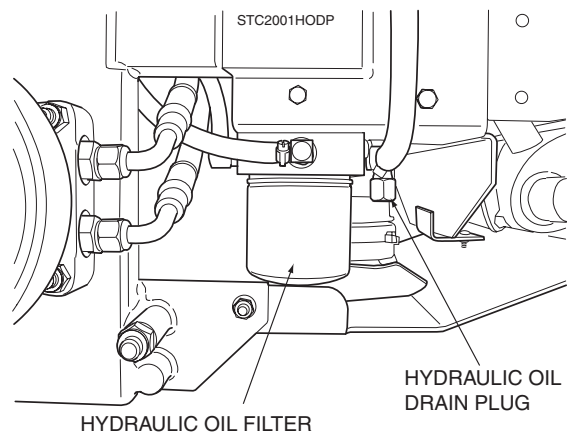

Figure 7-3. Hydraulic Oil Filter and Drain Plug
2. Place a suitable container under the hydraulic oil filter. Tilt the seat forward. Remove the fill cap from the reservoir and the drain plug from the bottom of the drain tee fitting on the front side of the filter base. See Figure 7-3. Allow the fluid to drain into the container and properly discard it.
1. Remove the oil filter element and properly discard it. See Figure 7-3. Fill the new filter with clean oil and install the filter. Hand tighten only.